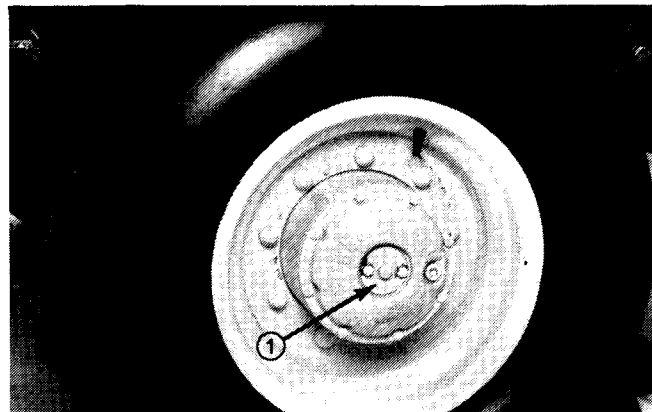

Figure 3
2. Remove bolts securing disengage covers to both front wheel hubs (Fig. 3).